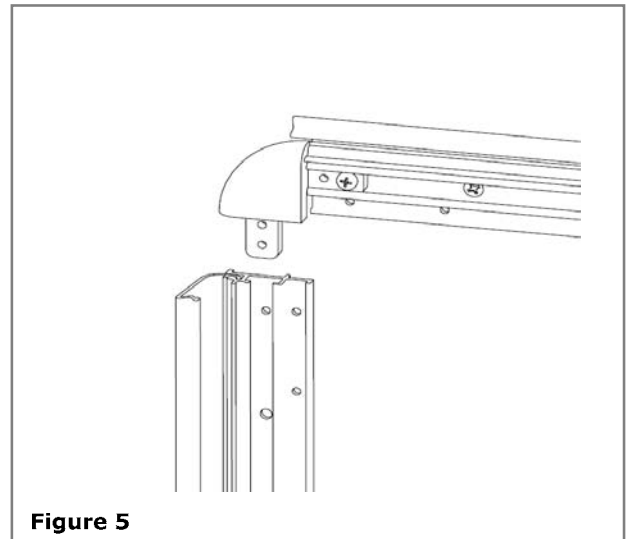

Figure 5
4. Open the frame of a connecting side and slide it onto the end of the first side so that the hole in the leg of the plastic corner lines up with the hole pre-drilled in the body. Install the #8x3/8" sheet metal screws through the leg of the plastic corner. **See Figure 5.**